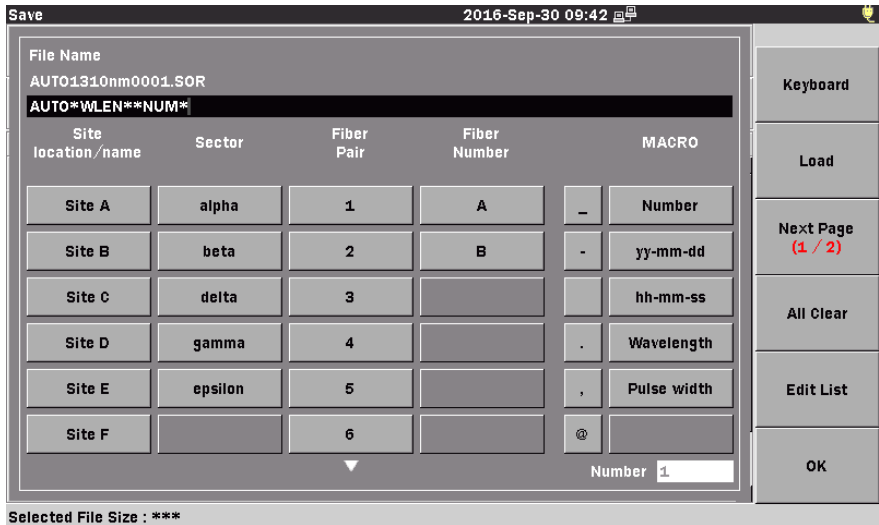

Figure 5-7: Base Filename Screen – File Name dialog box
1. Use the **Up** and **Down Arrow** keys (or the **Rotary knob**) to highlight **Base Filename** and then press the **Enter** key. The Filename dialog box appears (see Figure 5-7, below). If no USB keyboard is connected, refer to “Renaming a File” on page 3-37 to input the file name.